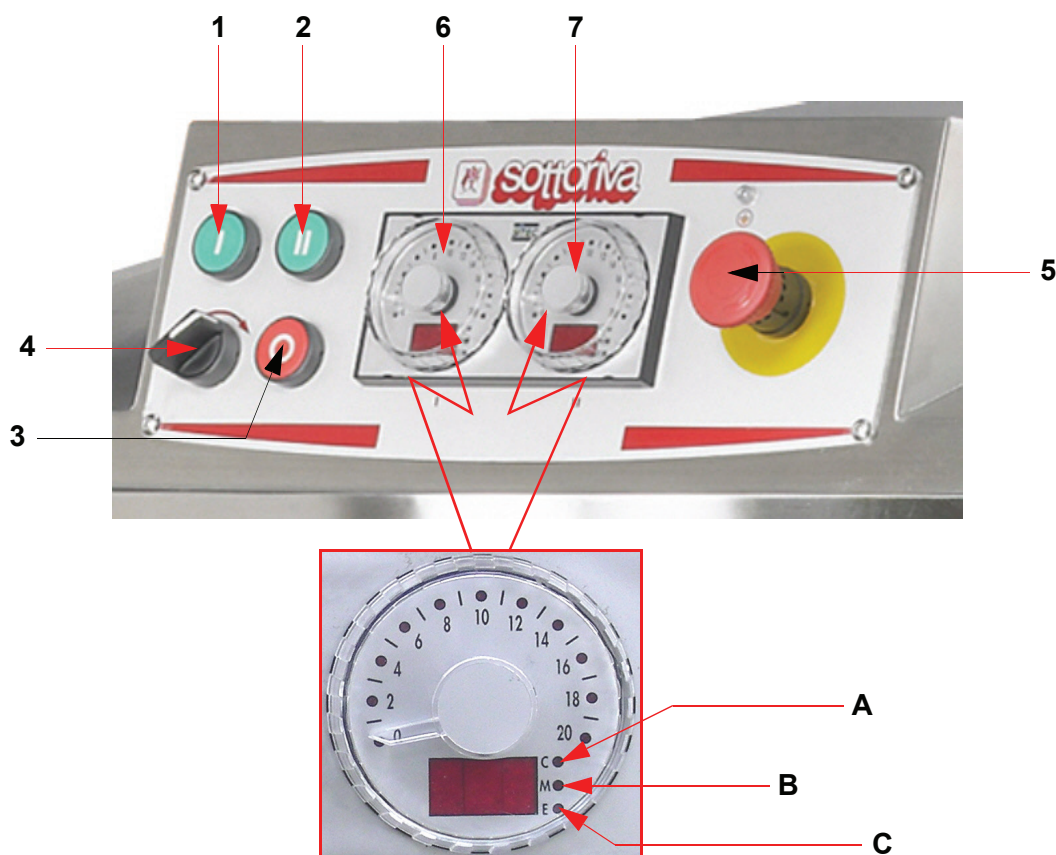

Fig. 12 Control panel
- 10) set a minimum time on the timer (**ref. 6 - Fig. 12** on page 41);
- 11) press the low speed start button (**ref. 1 - Fig. 12**);
- 13) Press the button (**ref. 3 - Fig. 12**) to stop the machine.
- **In case of danger**, press the mushroom head button (ref. 5 Fig. 12 on page 41) to run an emergency stop.
- 2) reset the mushroom-head button (ref. 5 Fig. 12);
- 3) press the low speed start button (ref. 1 Fig. 12);
- 5) press the high speed start button (ref. 2 Fig. 12).
- **To stop the machine**, press the stop button (ref. 3 Fig. 12).
- 1) press the machine stop button (ref. 3 Fig. 12);
- 3) make sure that all safety equipment is in place and operational: mobile guard interlock and mushroom-head button (**ref. 5 Fig. 12** on page 41) to trigger the emergency stop;
- a start button (**ref. 1 - Fig. 12**), for low speed operation;
- a start button (**ref. 2 - Fig. 12**), for high speed operation;
- an emergency stop button (**ref. 3 - Fig. 12**);
- a three position switch (**ref. 4 - Fig. 12**) which runs the bowl in both directions (only enabled at low speed);
- a mushroom-head pushbutton (**ref. 5 - Fig. 12**) for emergency shut-down;
- a timer for manually setting the duration of the low speed cycle (**ref. 6 - Fig. 12**);
- a timer for manually setting the duration of the high speed cycle (**ref. 7 - Fig. 12**);
Turn the collars to set the durations of the low and high speed cycles. Press the start button to start the count, which is indicated by the flashing of the “C” (COUNT) led **ref. A Fig. 12** on page 41 and the indicator LED bar or displays (where applicable).
To operate the machine manually, turn the collar all the way anticlockwise. This mode is indicated by the “M” (MANUAL) led **ref. B Fig. 12**. To cut out the automatic low speed count, turn the LH collar to the “MANUAL” position; do the same with the RH collar to cut out the automatic high speed count. The machine is now controlled completely manually with the external start and stop controls.
When the collar is set to 0, the “E” (EXCLUDED) led **ref. C Fig. 12** lights up. In this case the machine may not operate with the external start and stop controls. If, for example, the LH (low speed) timer collar is set to “EXCLUDED”, the machine will run only at high speed.
- 7) Set on the timer (**ref. 6 Fig. 12**) the duration of the low speed cycle, as instructed in “6.4 Correct use of the machine” on page 39 (at least 2 minutes).
- 8) Set on the timer (**ref. 7 Fig. 12**) the duration of the high speed cycle.
- 9) Turn the switch (**ref. 4 Fig. 12**) to the right-hand position to rotate the tank clockwise, or to the left-hand position to rotate the tank anticlockwise; the movement can be inverted or stopped (switch position 0) at any time.
- 10) Press the start button (**ref. 1 Fig. 12**) for low speed operation.
When the low speed count expires (**ref. 6 Fig. 12** on page 41) the machine will automatically start the high speed cycle, which lasts for the duration set on the timer (**ref. 7 Fig. 12**).
After at least 2 minutes of low speed operation, if the flour in the bowl is well amalgamated with the water and no free powder is visible, you may run the machine manually at high speed by pressing the button (ref. 2 Fig. 12).
- **automatically:** when the kneading cycle times set on the timers (**ref. 6 and ref. 7 Fig. 12**) have expired, the tool automatically stops rotating;
- **manually:** press the machine stop button (**ref. 3 Fig. 12**) to stop the machine under normal conditions;
- **in an emergency:** press the mushroom head button (**ref. 5 Fig. 12**) to stop the machine immediately or open the bowl's mobile guard (**ref. 10 Fig. 5**).